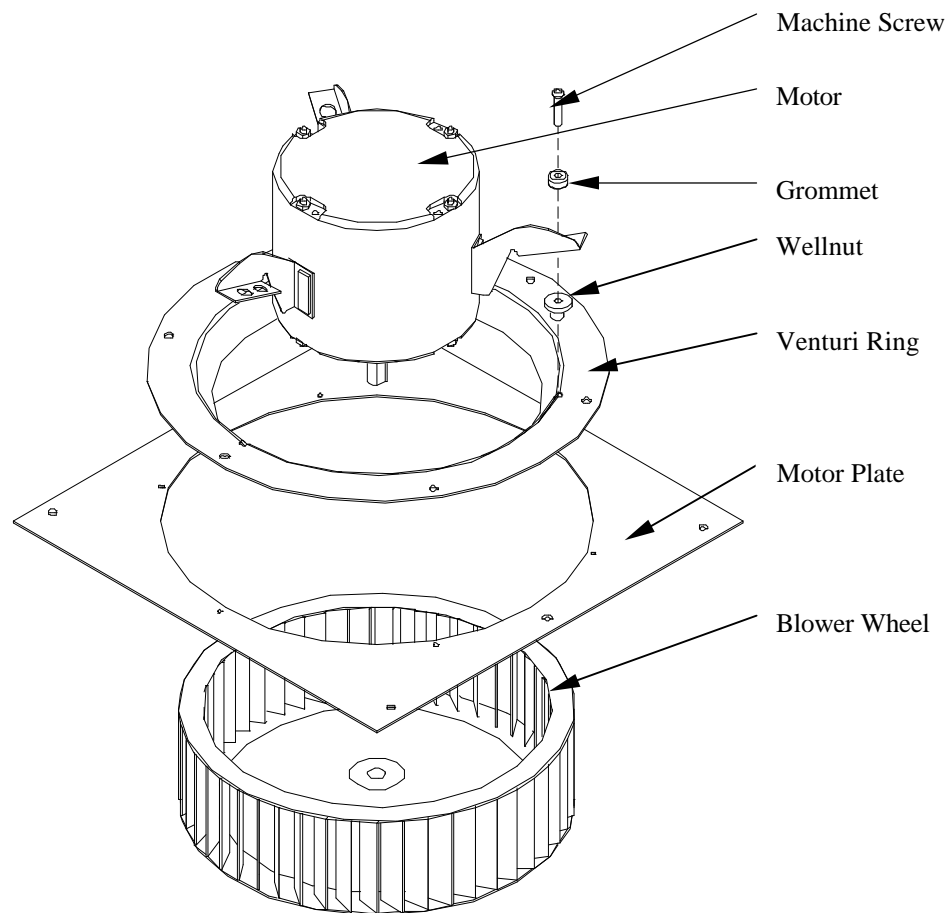

Figure 7
- Step 4.** While supporting the motor/blower assembly from below, remove the eight screws on the motor plate and lower the motor/blower assembly.(see Figure 7)